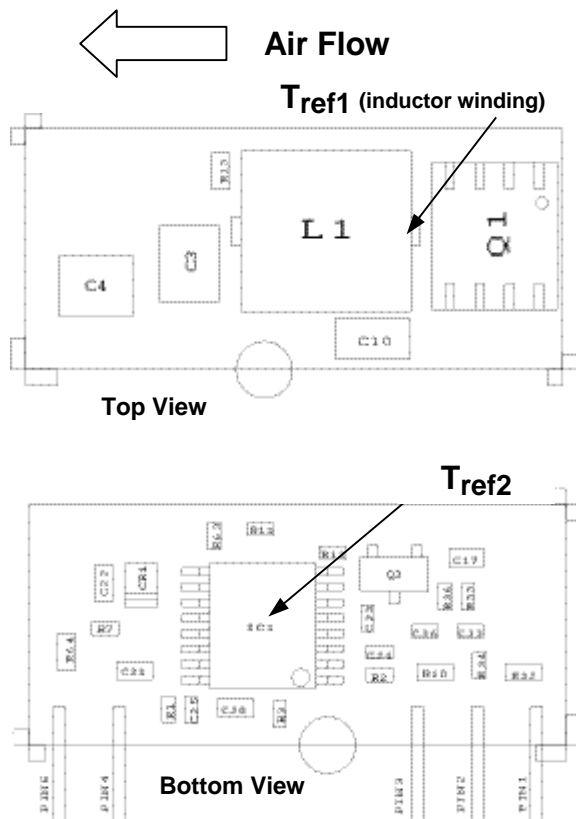
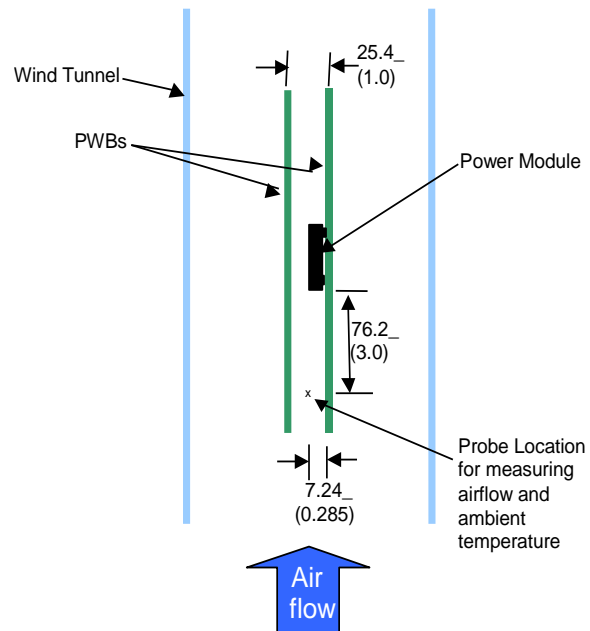

Figure 32. T_{ref} Temperature measurement location.
Figure 33. Thermal Test Set-up.
Considerations include ambient temperature, airflow, module power dissipation, and the need for increased reliability. A reduction in the operating temperature of the module will result in an increase in reliability. The thermal data presented here is based on physical measurements taken in a wind tunnel. The test set-up is shown in Figure 33. Note that the airflow is parallel to the long axis of the module as shown in figure 32. The derating data applies to airflow in either direction of the module's long axis.
The thermal reference point, T_{ref1} used in the specifications of thermal derating curves is shown in Figure 32. For reliable operation this temperature should not exceed 125°C. The output power of the module should not exceed the rated power of the module ($V_{o,set} \times I_{o,max}$).